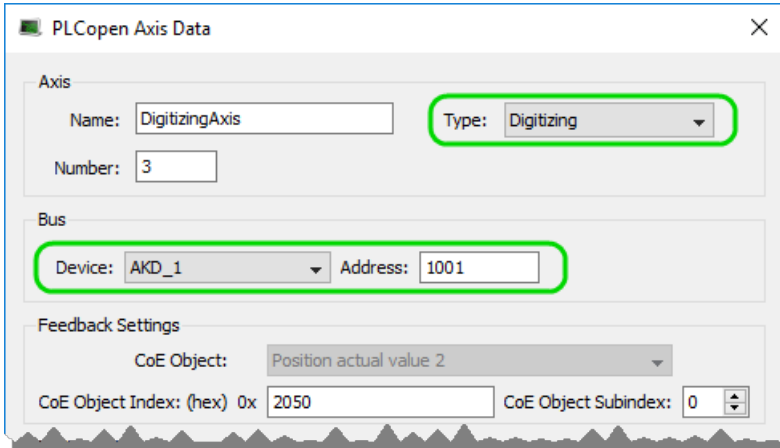

Figure 11-7: Create Digitize Axis Selections
- Setting the correct CoE object. (Figure 11-7)